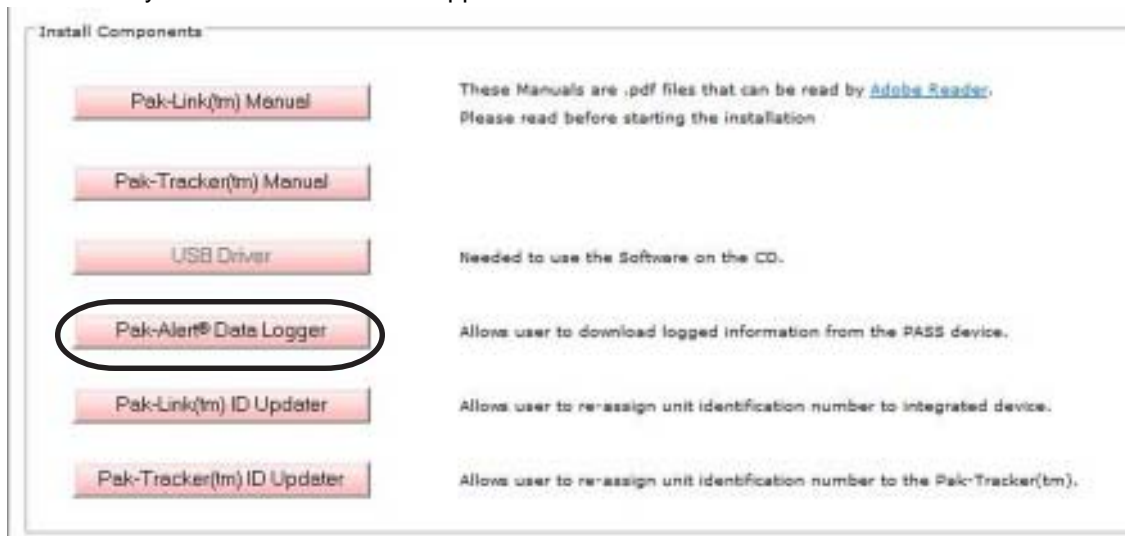

FIGURE 5
1. Select "Pak-Alert Data Logger" to install the Data Logger program to download the log of events from compatible PAK-ALERT Distress Alarm PASS Device. Follow the instructions on the screen. You may need to close all other applications. See FIGURE 5.